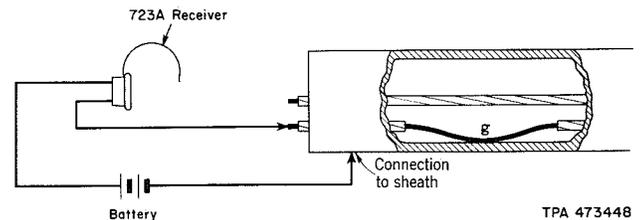

Fig. 1—Detecting Grounded Conductor
2.01 The tests for detecting open, crossed, and grounded pairs, with a battery and receiver are made as shown in Fig. 1, 2, and 3.
(a) *Detection of Ground*—To detect a grounded wire (Fig. 1) connect one side of the battery to the sheath of the cable (ground) and the other side to one terminal of the receiver; the other receiver terminal is connected to the wire under test. A circuit is formed when the grounded wire is touched with the test clip and a click will be heard in the receiver.